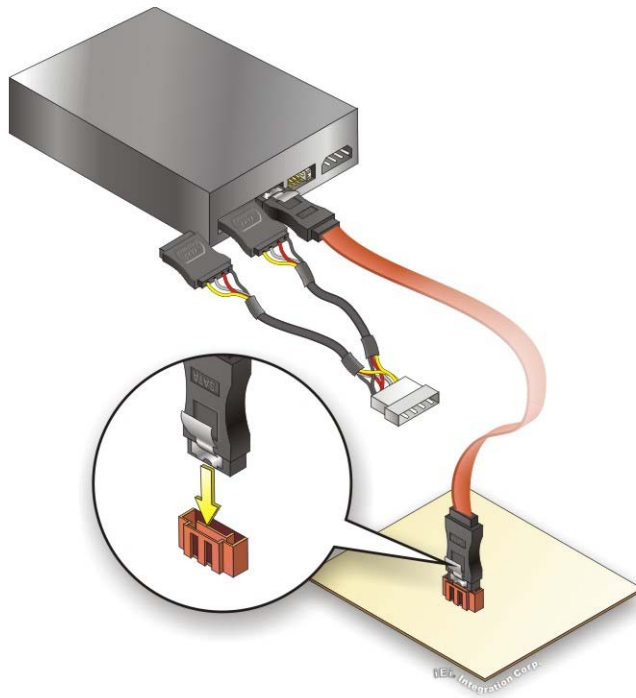

Figure 4-18: SATA Power Drive Connection
Step 3: Connect the cable to the SATA disk. Connect the connector on the other end of the cable to the connector at the back of the SATA drive. See **Figure 4-18**.
Step 4: Connect the SATA power cable. Connect the SATA power connector to the back of the SATA drive. See **Figure 4-18**.